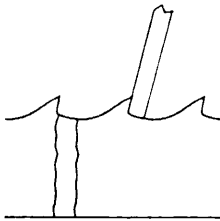

FIGURE 5
7. Position the first tooth right of the weld so the wheel will lightly touch new metal on the length of the tooth face. Dress the profile of the grinding wheel to match the profile of the first tooth. (See Figure 5.) After dressing the stone, grind that tooth just enough to regain a point on the tooth, leaving the gullet the same or possibly a little deeper. (See Figure 5A.) If you are grinding your gullet deeper, the stone must be reshaped to keep from making an inconsistent gullet which will lead to premature breakage of the blades. (An inconsistent gullet is when the stone grinds below the level of the gullet.) This is a condition that will enhance premature blade breakage. A very sharp-cornered gullet will also lead to premature breakage. (See Figure 5B and Step 11.)